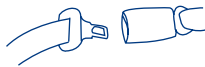

Fig. 18-2
- A lap belt that cannot be lengthened once it is fastened is suitable for use with the Safety Seat. These seat belts often have an automatic locking retractor that will allow the belt to be lengthened but once fastened, must be unbuckled and allowed to retract fully before allowing the belt to be lengthened again (Fig. 18-2).